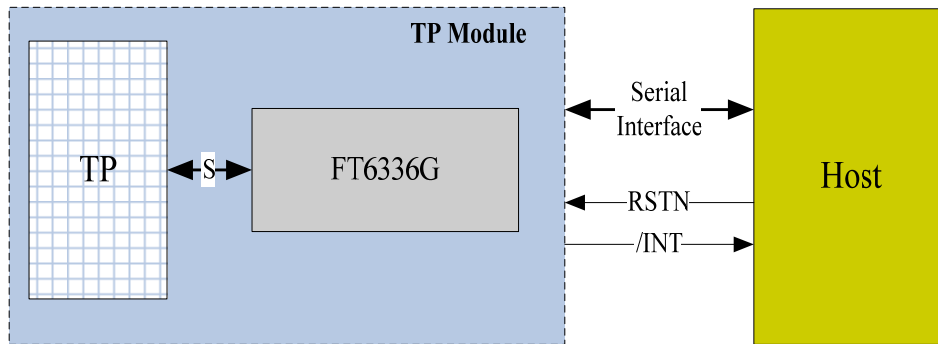

Figure 2-3 Host Interface Diagram
**Host Interface** Figure 2-3 shows the interface between a host processor and FT6336G. This interface consists of the following three sets of signals: